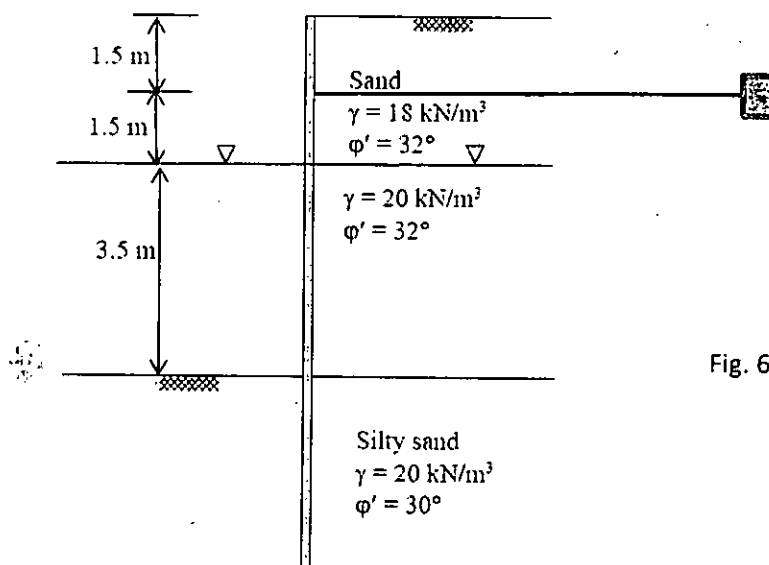

Fig. 6
6. Determine the required embedment of an anchored sheet pile, shown in Fig.6, retaining 6.5 m of sandy backfill material and embedded in silty sand deposit. Water table is 3 m below the top surface of backfill. Also determine the spacing and size of mild steel tie-rods to be used for anchor. (20)